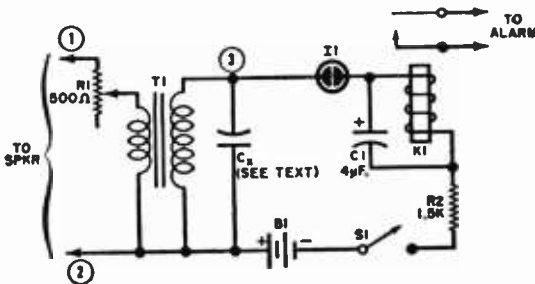

Fig. 1. With *S1* closed, the voltage across *I1* is maintained below its firing point. An input signal causes the lamp to fire and relay *K1* pulls in.
**How It Works.** The call monitor is shown schematically in Fig. 1. Its LC tuned circuit consists of the secondary of transformer *T1* and resonating capacitor *Cx*. With coil inductance varying somewhat from transformer to transformer, the resonant frequency of the circuit is determined essentially by the value chosen for capacitor *Cx*, as shown
for maximum resistance and connect an audio signal generator, tuned to the frequency you're interested in, across input terminals 1 and 2 (see Fig. 1). Connect the leads of an a.c. VTVM between points 2 and 3. Then adjust the signal generator output for a reading of approximately 10 volts on the VTVM. If this reading cannot be attained, reduce the setting on *R1* as necessary.